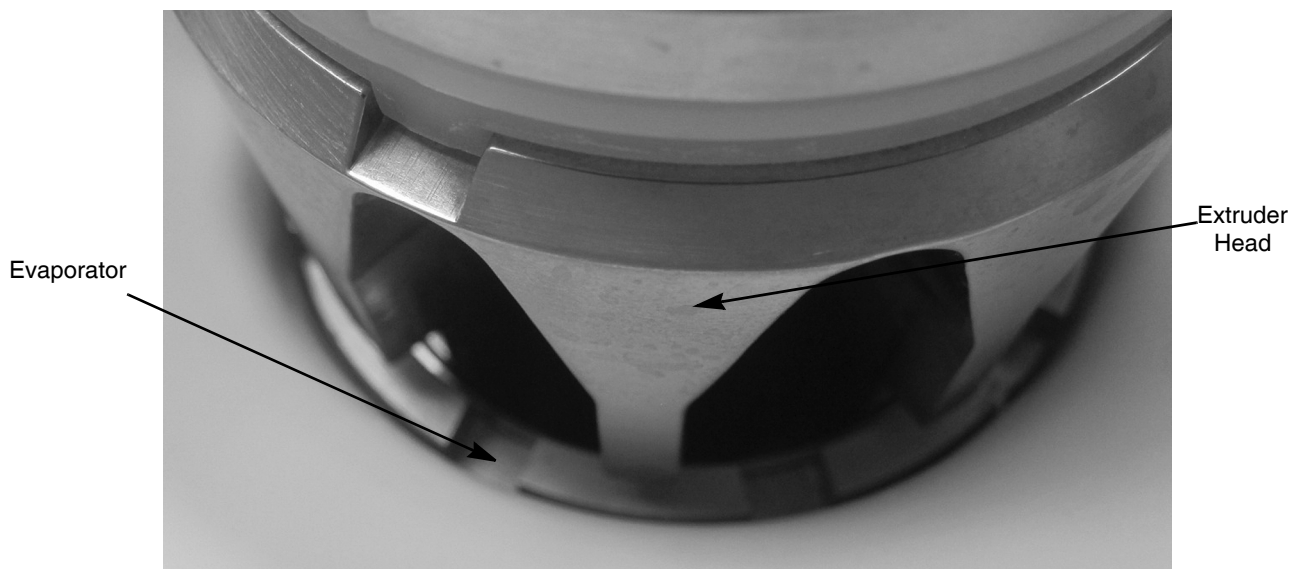

Figure 16.
2. When the auger is lowered into the evaporator, rotate the auger to engage the motor drive shaft, see Figure 16.